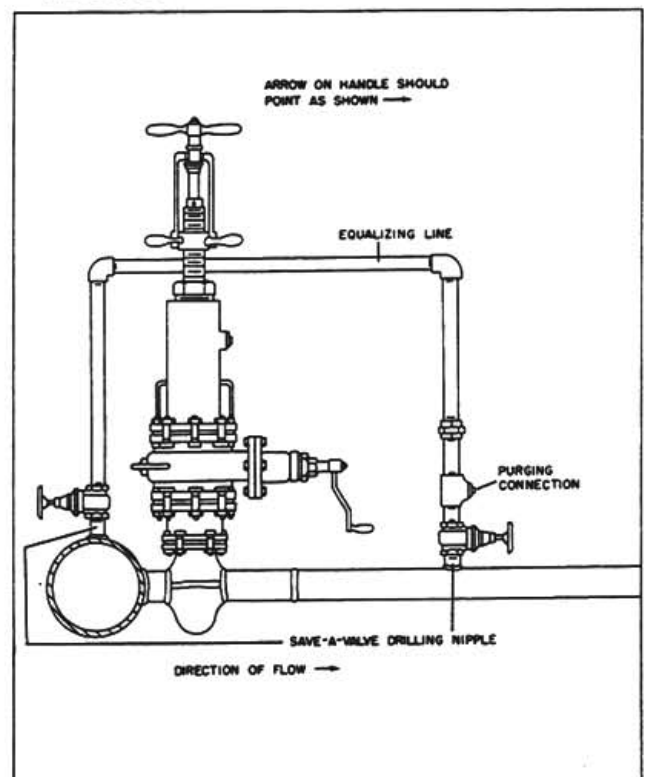

FIGURE 52
6. If using a solid rubber stopper or deferred completion stopper, install a save-a-valve drilling nipple on the pipe line which is the source of pressure. Install a second save-a-valve drilling nipple on the new lateral pipe line and connect the two nipples together to form an equalizing line. **Figure 52.** To install save-a-valve drilling nipples, see instruction "I," on page 12.